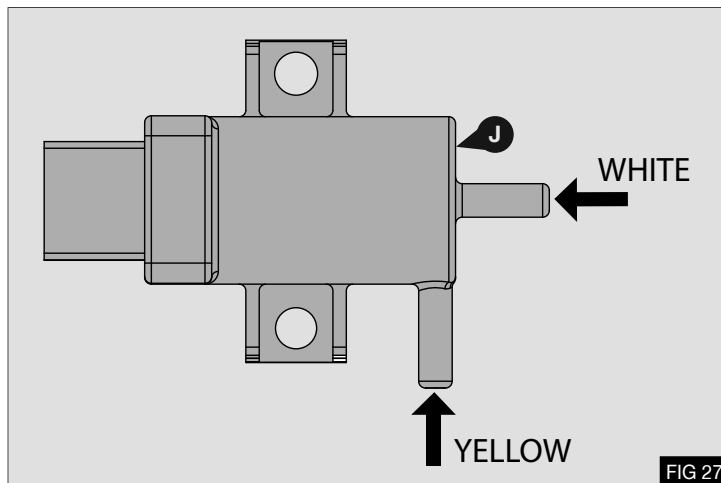

FIG 27
2. Connect previously installed vacuum hose extensions (25) to vacuum solenoid (J) - Fig 27